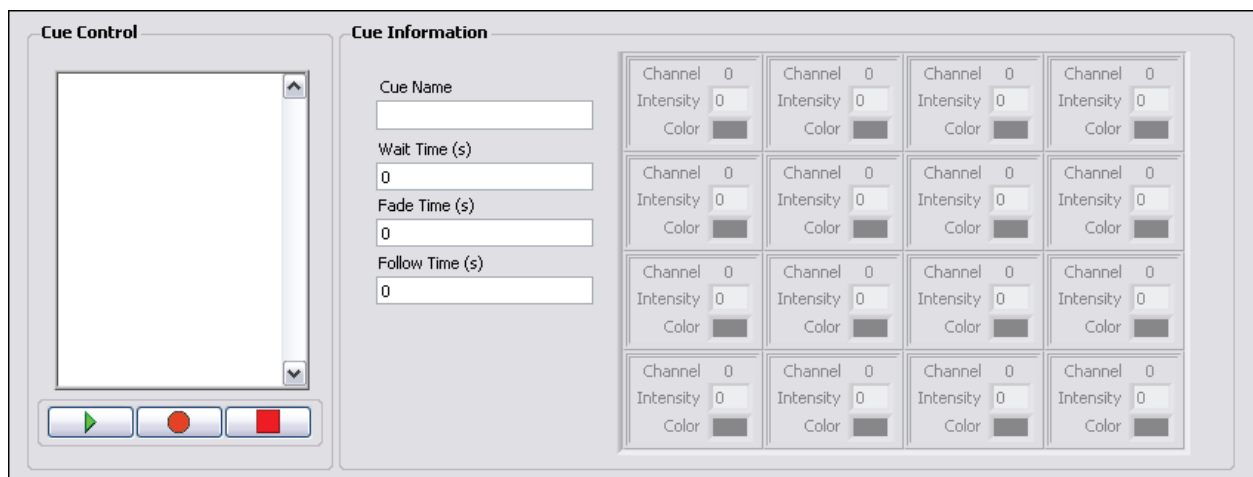

Figure 5-1. Theatre Light Control User Interface
Figure 5-1 shows the user interface from the requirements document.
Create a front panel similar to the user interface shown in Figure 5-1.
- ☐ Click and drag the border of `tlc_Cue_Information.ctl` to resize the cluster to match the specification in Figure 5-1. Click and drag the corner of the array to display a 4×4 array of channels.
8. Add decorations to the front panel to visibly group objects as shown in Figure 5-1.